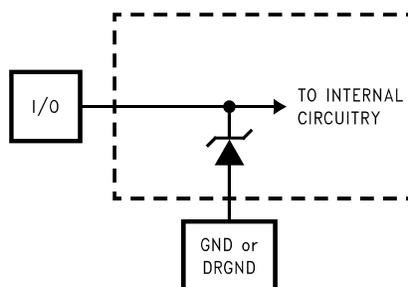

Figure 2.
- (1) The inputs are protected as shown below. Input voltages above V_A or below GND will not damage this device, provided current is limited per Note 4 under the Absolute Maximum Ratings Table. However, errors in the A/D conversion can occur if the input goes above V_A or below GND by more than 100 mV. As an example, if V_A is 3.3V, the full-scale input voltage must be $\leq 3.4V$ to ensure accurate conversions. See Figure 2
- (2) To guarantee accuracy, it is required that $|V_A - V_D| \leq 100\text{ mV}$ and separate bypass capacitors are used at each power supply pin.
- (3) With the test condition for $V_{REF} = +1.0V$ ($2V_{P-P}$ differential input), the 12-bit LSB is 488 μV .
- (4) Typical figures are at $T_A = T_J = 25^\circ\text{C}$, and represent most likely parametric norms. Test limits are guaranteed to National's AOQL (Average Outgoing Quality Level).
- (5) Integral Non Linearity is defined as the deviation of the analog value, expressed in LSBs, from the straight line that passes through positive and negative full-scale.
- (6) Optimum dynamic performance will be obtained by keeping the reference input in the 0.8V to 1.2V range. The LM4051CIM3-ADJ or the LM4051CIM3-1.2 bandgap voltage reference is recommended for this application.
- (2) To guarantee accuracy, it is required that $|V_A - V_D| \leq 100$ mV and separate bypass capacitors are used at each power supply pin.
- (3) With the test condition for $V_{REF} = +1.0V$ (2V_{P-P} differential input), the 12-bit LSB is 488 μV .
- (4) Timing specifications are tested at TTL logic levels, $V_{IL} = 0.4V$ for a falling edge and $V_{IH} = 2.4V$ for a rising edge.
- (5) Typical figures are at $T_A = T_J = 25^\circ C$, and represent most likely parametric norms. Test limits are guaranteed to National's AOQL (Average Outgoing Quality Level).